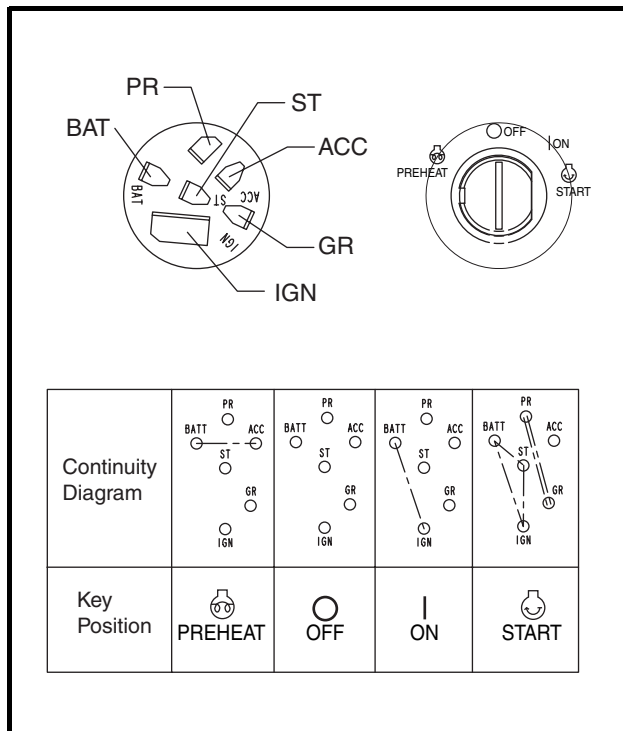

Figure 11b-8 Key Switch Terminals and Continuity Diagram
- 8.1. Use alligator clips to connect the multimeter probes between the BATT and IGN terminals. With the key in the START position, the multimeter should indicate continuity (**Figure 11b-8, Page 11b-14**). If the multimeter does not indicate continuity, the key switch has failed and should be replaced. **See Key Switch Removal, Section 12b, Page 12b-6.**